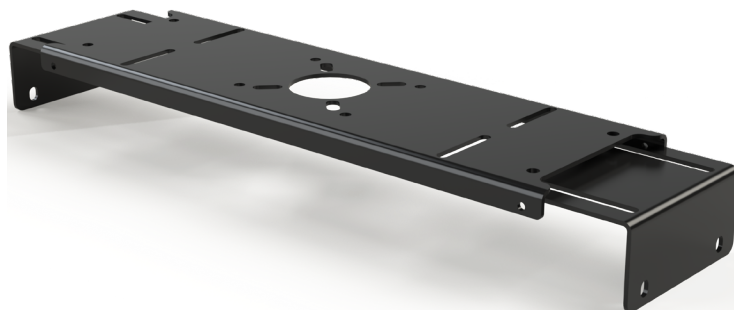

Figure 3: Position of Reinforcement Brackets and Plate
1. Position the Reinforcement Brackets and Reinforcement Plate together as shown in **Figure 3**.